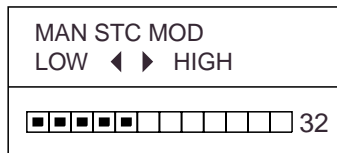

Figure 1-9 Dialogue for manual adjustment of STC
1. Press the [STC] key once or twice to display the dialogue shown in Figure 1-9.